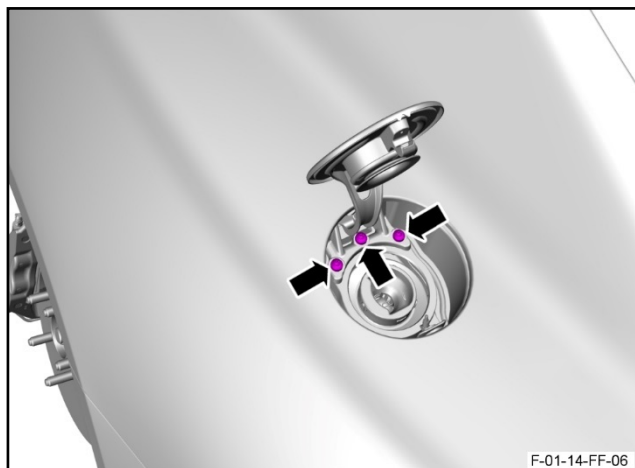

Figure 6
12. Remove the three Torx screws that attach the mechanism for the fuel filler door to the body (refer to Figure 6).